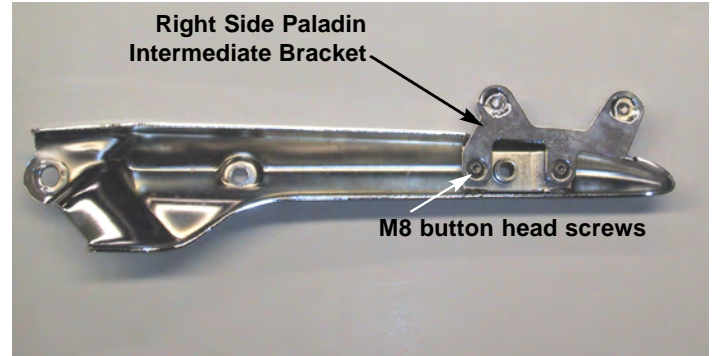

Figure 5.
13. Use the two M8 Button Head Cap Screws supplied with the kit to mount the right side Intermediate Bracket to the fender strut. (5mm Hex Key) **Figure 5.** Apply Lock-Tite and tighten to 36 ft. lbs. (50Nm) (Torque Wrench)